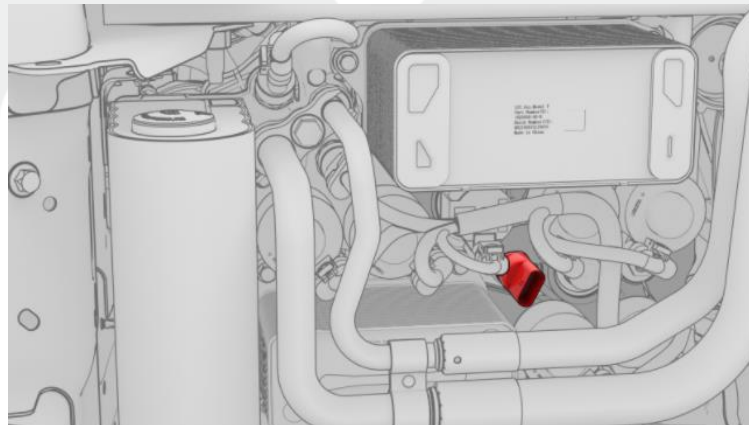

Figure 8
10. Use the HVAC socket kit special tool to remove the subcool high pressure P/T sensor from the Supermanifold (Figure 8).
13. Hand-install the new subcool high pressure P/T sensor (black connector) into the Supermanifold, and then use the HVAC socket kit special tool to tighten (torque 9 Nm) (Figure 8).